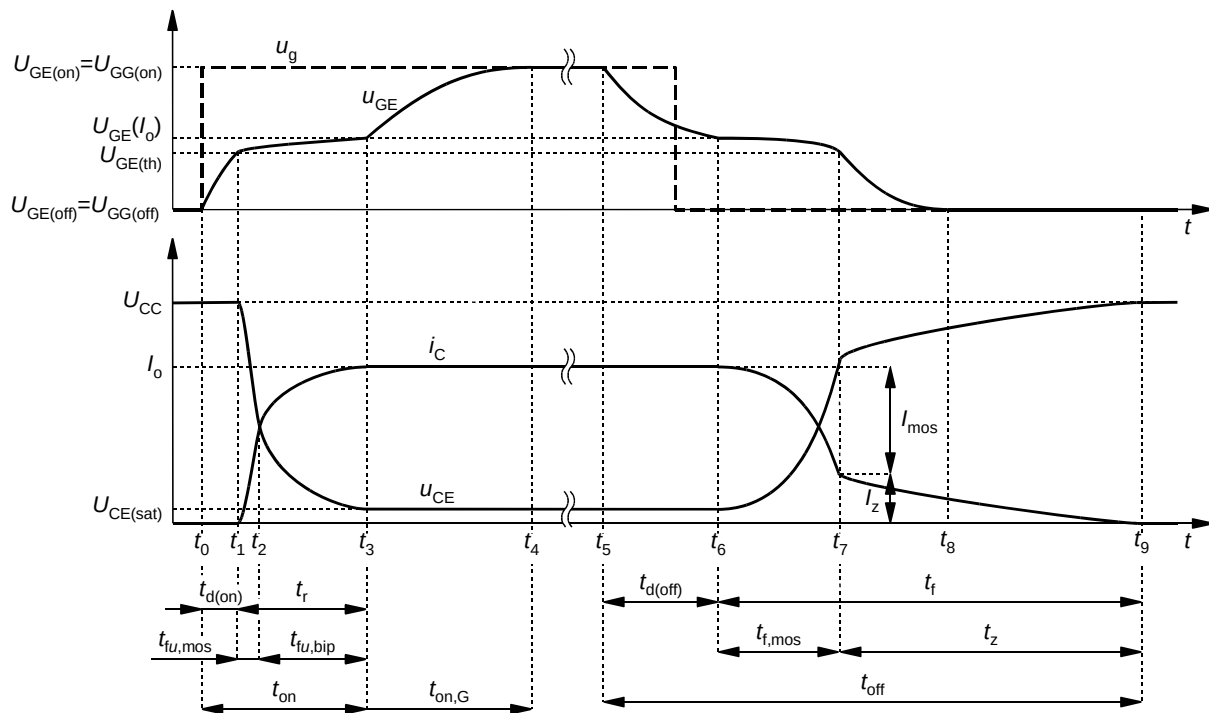
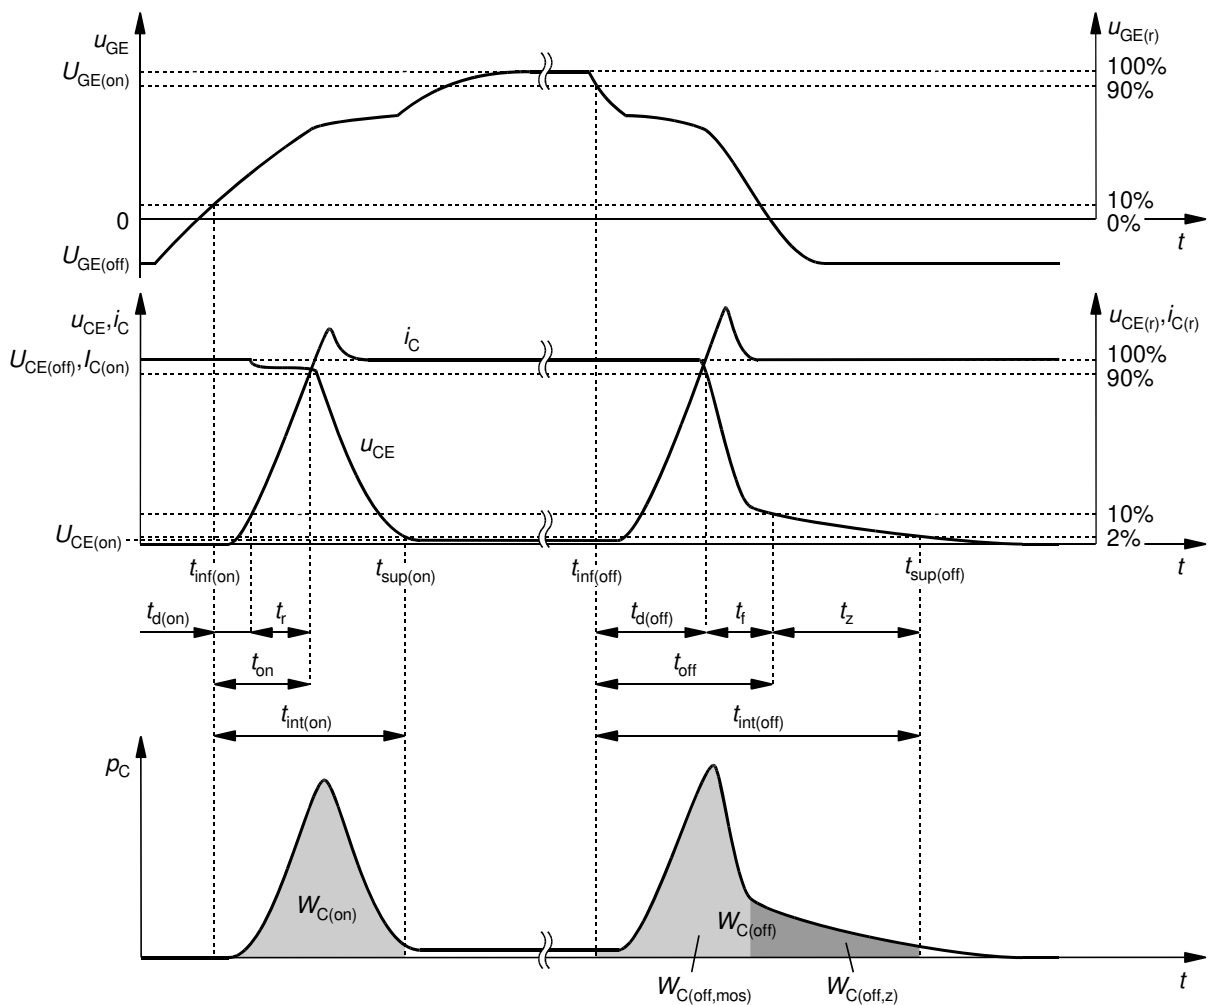

Fig. 3. Voltage and current waveforms during IGBT switching
Fig. 4. Technical definitions of IGBT time-related and energy-related parameters according to IEC 60747-9
13. Adjust (generating a switching pulse after each setting change is made) the time base and the trigger event position (*Horizontal Scale* and *Horizontal Position* knobs) so that one pulse of the u_{GE} voltage is visible in its entirety (cf. Fig. 3) and occupies most of the screen horizontally.
14. Using the *2* button, display the waveform from channel 2, i.e. the u_{CE} voltage. Check whether the waveform is generally correct (see Fig. 3).
20. Generating switching pulses, adjust measurement path gain and waveform position (*Vertical Scale* and *Vertical Position* knobs) so that the current waveform can be optimally seen, i.e. that it fills the screen to the maximum extent vertically but does not extend beyond it. Check whether the waveform is correct (see Fig. 3).
- (a) generating switching pulse trains, modify the time base (*Horizontal Scale*) and the trigger event position (*Horizontal Position*) so that the transistor's turn-on process (not any other operating state) can be observed with the highest accuracy possible, both in the principal and in the control circuit, i.e. all along the $t_{on,G}$ interval (see Fig. 3);
- (b) make sure that all crossing moments of all thresholds necessary to determine all the time-related turn-on parameters (see Fig. 4) are visible on the screen; if not, adjust the time base (*Horizontal Scale*) and the trigger event position (*Horizontal Position*);
the correctness of the observed waveforms, obviously the turn-off process should be considered instead of the turn-on one, i.e. the t_{off} interval in Fig. 3 and the appropriate threshold crossing moments in Fig. 4.
16. Obtain and record waveforms as for the IGBT by repeating steps 1 to 10, while considering the waveforms of u_{GS} , u_{DS} , i_D and p_D , respectively. Plots that correspond to Figs. 3 and 4 and facilitate assessing the correctness of waveforms observed as well as of oscilloscope scale settings, are presented in Figs. 5(a) and 5(b), respectively.